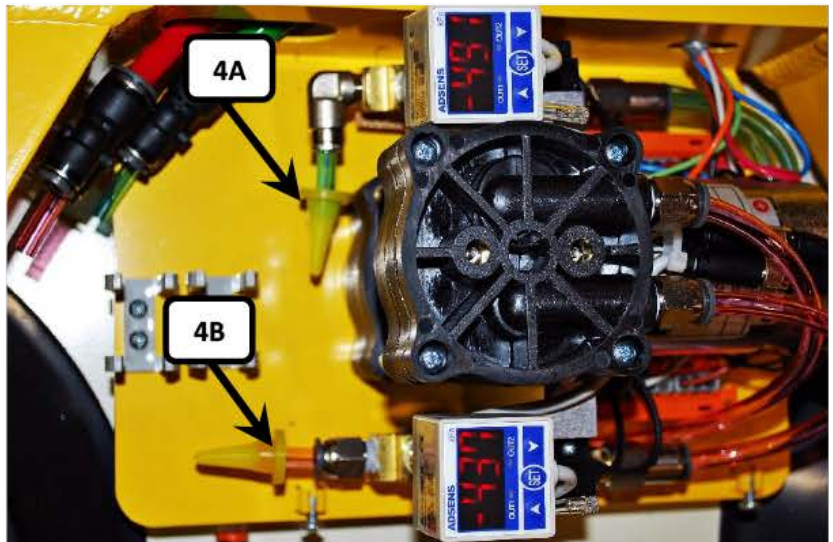

FIGURE 4
- 5) Remove the hose from the valve assembly that connects the vacuum gauge. Install a short piece of ¼" O.D. hose that is capped off to create a fitting plug as shown in **FIGURE 4**, items **4A** and **4B**.